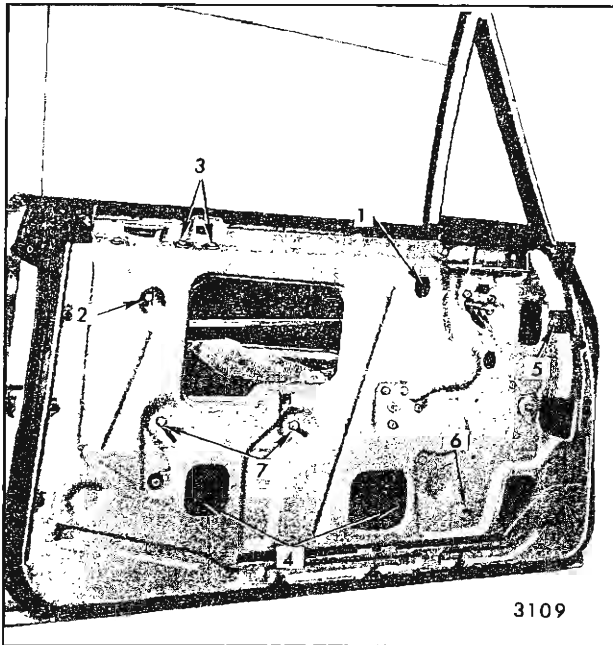
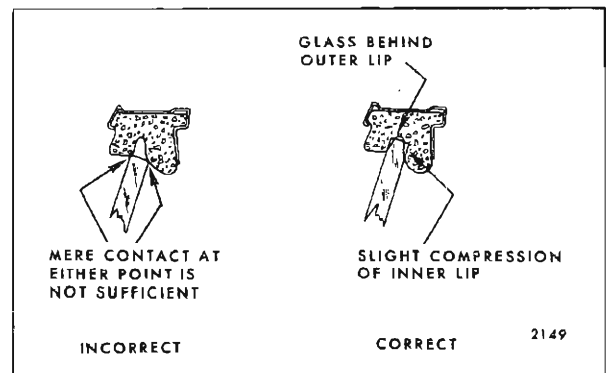

Fig. 6-80—Front Door Window Removal and Adjustments - "A-39" Styles
Fig. 6-81—Window to Side Roof Rail Weatherstrip Alignment
sash channel and rear up stop from rear guide ("1" and "2", Figure 6-80).
3. Loosen rear guide to door inner panel attaching bolts ("3", Figure 6-80).
4. With window in a three quarter down position, remove screws securing lower sash channel cam to lower sash channel ("4", Figure 6-80).
1. A rotated window condition (glass cocked in opening) may be caused by any one or a combination of the following (Reference: Figure 6-80).
2. To adjust upper rear corner of window in or out in relation to side roof rail weatherstrip, loosen rear guide upper attaching bolts ("3", Figure 6-80) and position guide further inboard or outboard.
If this adjustment proves inadequate, obtain additional adjustment at the ventilator front frame adjusting stud ("5", Figure 6-80).
3. To adjust window up-travel, operate window to "full-up" position and loosen front and rear upper stops ("1 and 2", Figure 6-80). Operate window to desired up position (Figure 6-81) and tighten stop bolts.
4. Adjustment has been provided to relieve a binding door glass due to a misaligned ventilator division channel ("6", Figure 6-80).